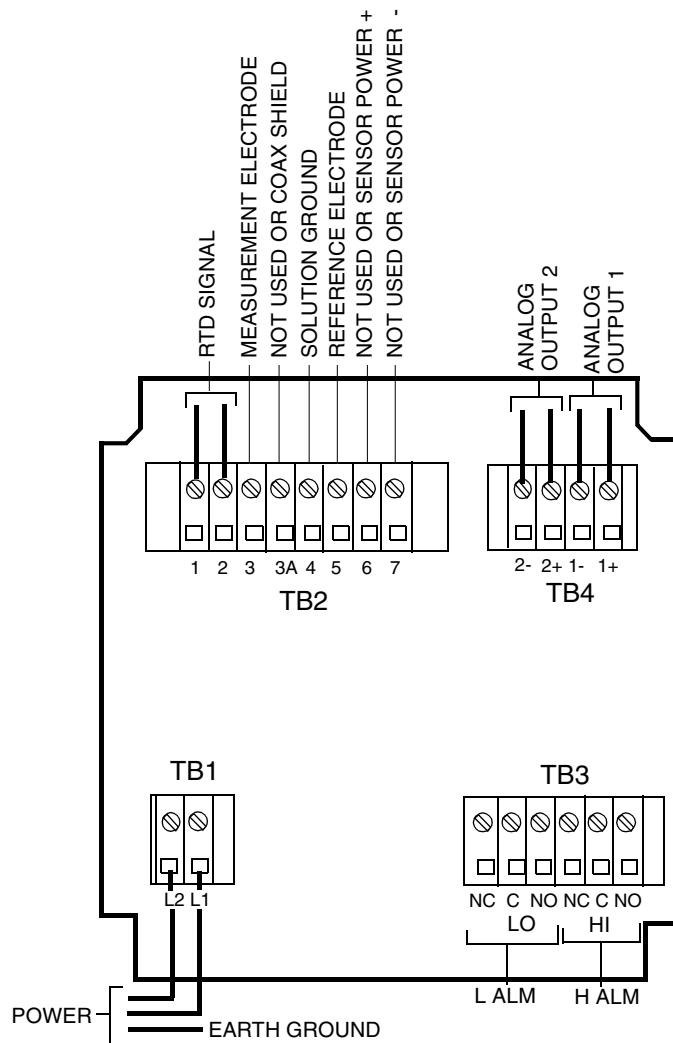

Figure 2. Metal Enclosure Rear Panel Wiring for Power, Output, and Alarms
2. Connect H and L Alarm wires to TB3 as shown in Figure 2. Refer also to “General Information Alarms” on page 34.
4. Connect sensor wires to Analyzer terminal block TB2 as shown in Figure 2.
5. Connect power wires to terminal block TB1, as shown in Figure 2. The earth (ground) connection from the power cord should be connected to the ground stud located in the bottom of the case. This connection is mandatory for safe operation.